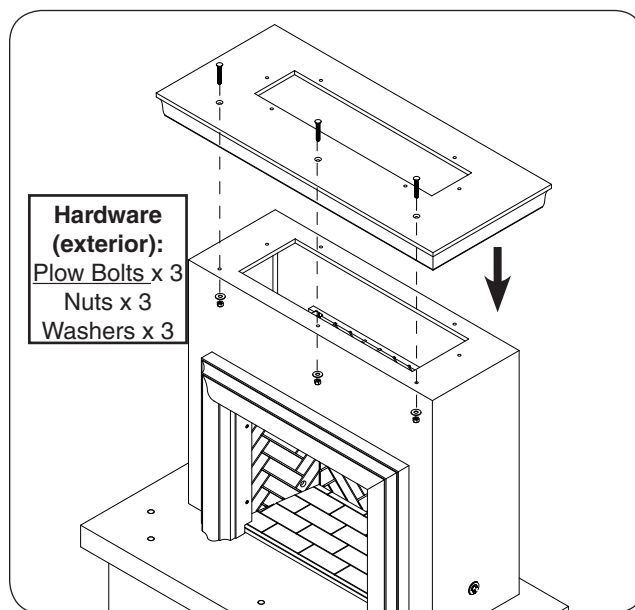

Fig. 17-2 Assemble mantel
1. Place the mantel on top of the body piece (see Fig. 17-2).
2. Carefully align the pilot holes, and insert the hardware (exterior hardware kits) in the order shown in Fig. 17-2. Hand tighten, then use a  $\frac{3}{4}$ " open end wrench (or equivalent) to fasten.